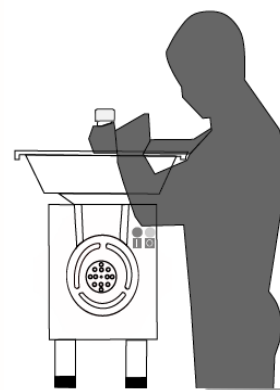

FIG.5 WORKING POSITION
- 1.- Before starting, move to the correct work position – at sides of meat grinder – (see Fig. 5).
- 3.- Place product on the rear of feed tray (2).
- 4.- Feed the product into the opening of the Headstock (10).
- 5.- Using only the provided pusher (1), push the product without forcing it.